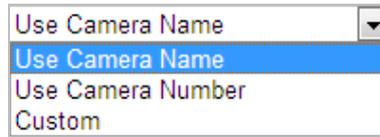

Figure 2-11 Child Directory
- **Child directory:** It is a sub-folder which can be created in the parent directory. The files will be saved in a sub-folder in FTP server. The name of folder can be defined as shown in following Figure 2-11.